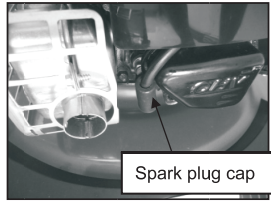
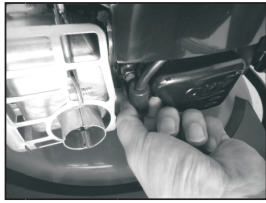

Fig.20A
Fig.20B
c) Remove the spark plug cap by your hand first, and then remove the spark plug by the spark plug wrench (Fig.20A/Fig.20B/Fig.20C/Fig.20D). Use an oil can to fill approx. 20 ml oil into the combustion chamber. Operate the starter to evenly distribute the oil in the combustion chamber. Replace the spark plug.